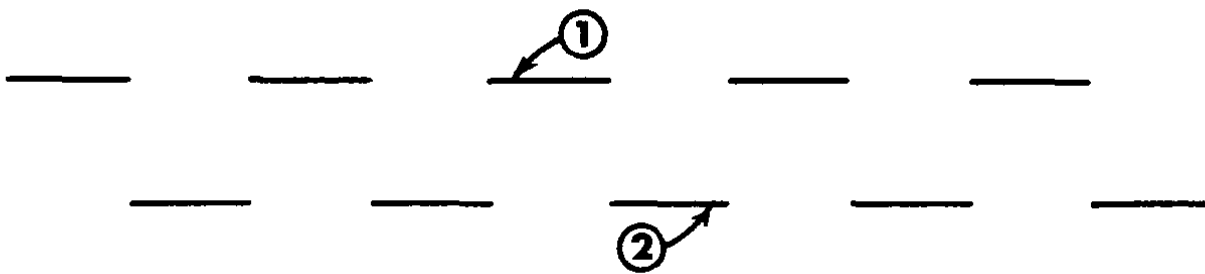
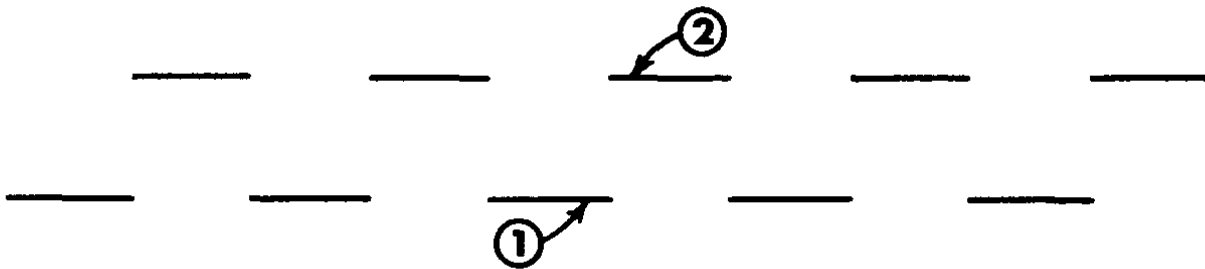
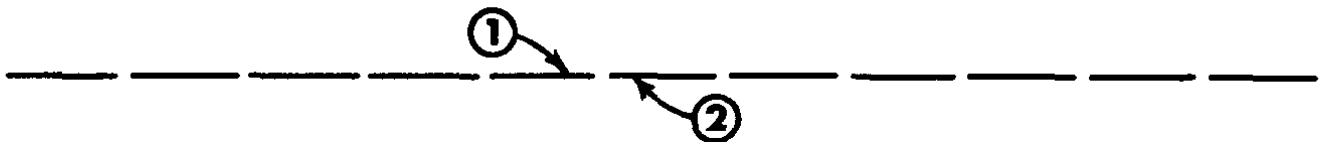

Fig. 2. POSITIONING CONTROL AT EXTREME COUNTER CLOCKWISE POS
Fig. 3. POSITIONING CONTROL AT EXTREME CLOCKWISE POSITION
Fig. 4. POSITIONING CONTROL AT SOME INTERMEDIATE POSITION.
- f) Adjust the sweep vernier (fine frequency) control until a pattern of 6-9 cycles is locked in place on the 'scope screen, using as little sync voltage as possible. The pattern should appear as in Fig. 2.
4) The POSITIONING control permits adjustment of the separation between the "1" and "2" traces. With it you may superimpose one trace upon the other or reverse the vertical order of appearance of the traces on the 'scope screen. The extreme counter-clockwise position of this control provides maximum separation of the traces for one vertical order of appearance ("1" above "2") as shown in Fig. 2. The extreme clockwise rotation yields maximum separation for the reverse vertical order of appearance ("2" above "1") as shown in Fig. 3. At some setting of the POSITIONING control between the extremes of rotation, one trace will be superimposed upon the other as shown in Fig. 4. Turn the POSITIONING control slowly to the maximum clockwise position and back to the maximum counter-clockwise position observing the action described above.